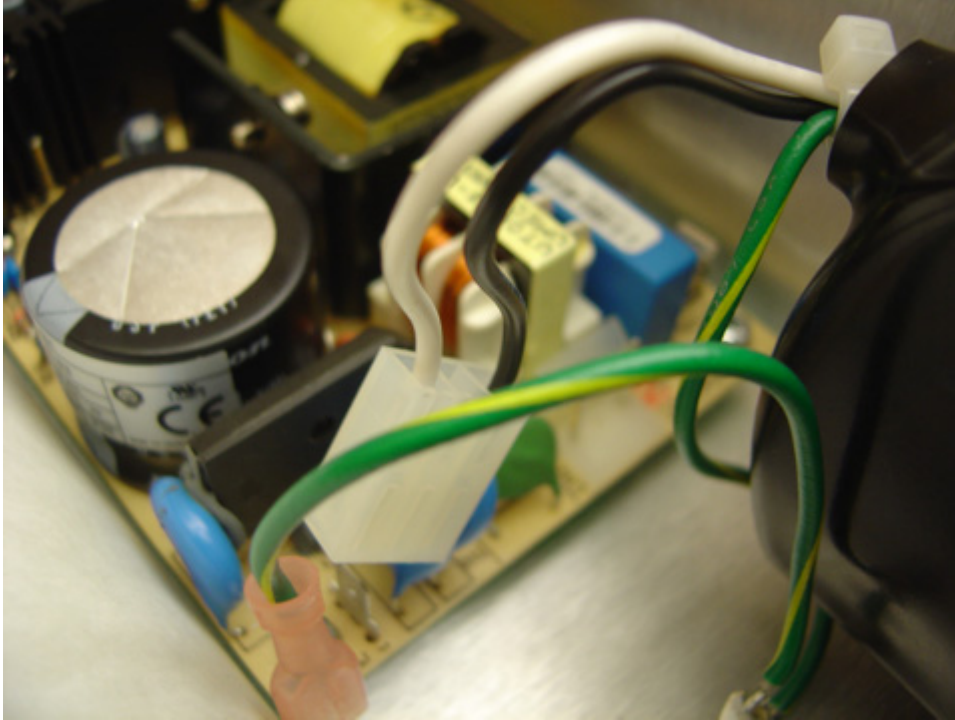

Figure 4 AC and Ground Connectors Unplugged
5. Unplug the white DC and AC connectors from the ends of the power supply module. Unplug the ground wire spade connector from the AC end of the power supply module. Figure 4 shows the AC end of the power supply module with the connectors unplugged.